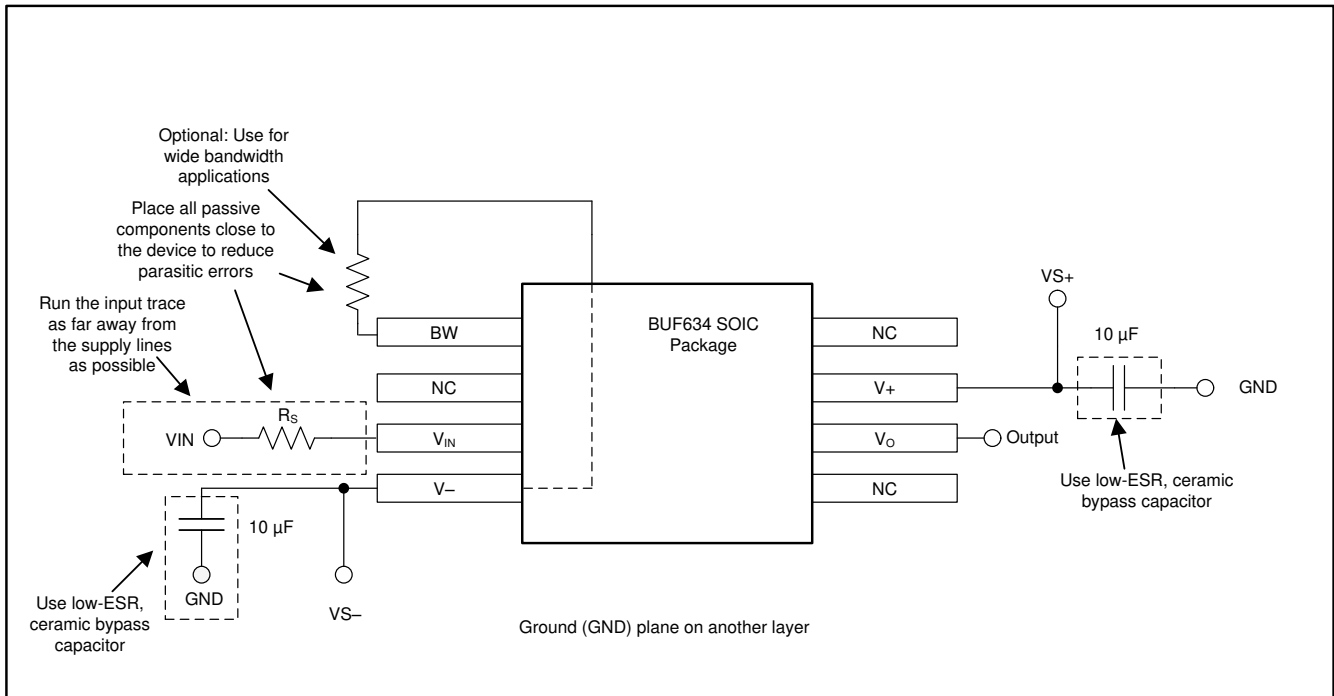

図 8-9. BUF634 Layout Example
- Place the external components as close to the device as possible. As illustrated in 図 8-9